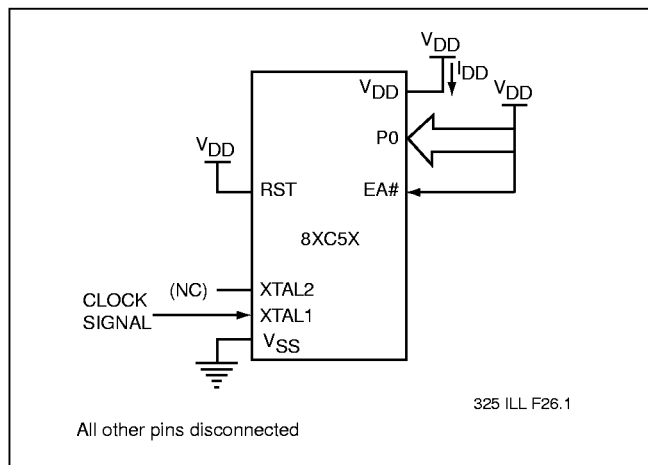

FIGURE 24: I_{DD} TEST CONDITION, ACTIVE MODE
- See Figures 24, 25, 26 and 27 for test conditions. Minimum V_{DD} for Power Down is 2 V.